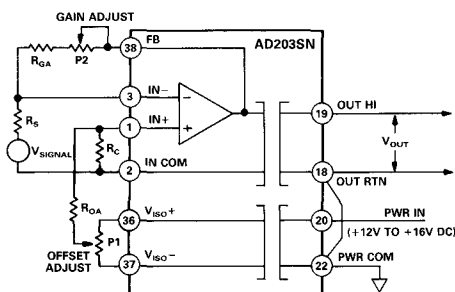

Figure 21. Input Adjustments for the Inverting Mode of Operation
**Offset Adjustment.** Figure 21 shows the suggested input adjustment connections when the isolator's input amplifier is configured for the inverting mode of operation.
**Gain Adjustment.** Figure 21 also shows the suggested gain adjustment circuit. In this circuit, the gain adjustment is made in the feedback loop using potentiometer P2. The adjustments will be effective for all gains in the 1 to 100 V/V range.